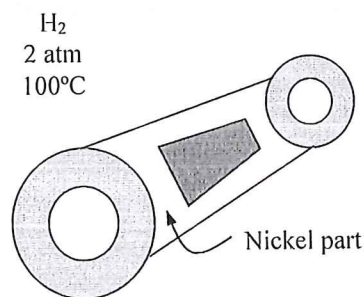

Figure 7 : Hydrogen diffusion in Nickel
7. [a] A thick part made of nickel (Ni) is put into a room filled with hydrogen gas at 2 atmosphere and 100 °C. Figure 7 below shows it. Determine the H₂ concentration at a depth of 2.5-mm from the surface after 36 hours using Fick's 2nd law of diffusion. The molar mass of H₂ is $M = 2$ kg/kmol. The solubility of H₂ in Ni at 373 K (100 °C) is 0.00901 kmol/m³.bar. The mass diffusivity of H₂ in Ni at 373 K is $D_{AB} = 1.2 \times 10^{-12}$ m²/s. Use the error function table and equation given in appendix formula.